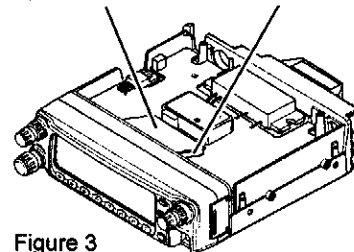

Figure 3
- Referring to Figure 3, turn the FTS-22 bottom side up. Insert the FTS-22 between the VCO shield case and mainchassis.
- Use the two supplied self-tapping screws and flat washers to mount the Nest (with or without the metal bracket) to the car. See Figures 3 ~ 5.